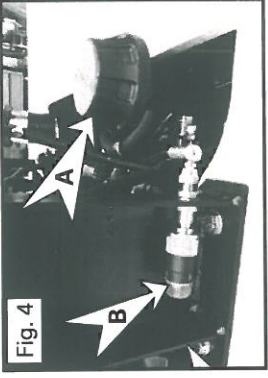

Fig. 4
- If no oil can be seen top up as required using approved hydraulic oil to (HV46) through filler cap (Fig 4, A).
- If the RED button has 'popped out' (Fig. 4, B) the filter requires changing.